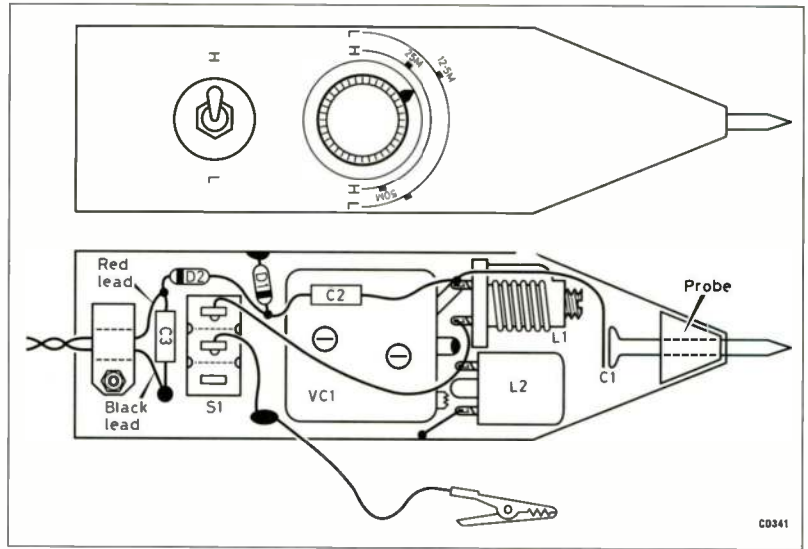

Fig 8.3. Component and wiring layout of the 50MHz wavemeter
3. Solder the centre pin of VC1 to the copper and bend up the right-hand pin (pins at the top of the capacitor) out of the way or cut it off, leaving about 1mm. Check with the layout in Fig 8.3.
5. Glue the probe assembly to the base as shown in Fig 8.3. Either superglue or quick-setting Araldite is satisfactory but in any case give plenty of time for the glue to set before going on to the next stage.
19. Solder a short flying lead about 15mm long to the copper of the board as shown in Fig 8.3 and solder a small crocodile clip to the other end.
21. Paste the paper to the panel so that it is centred on the tuning spindle. Fig 8.3 shows the general idea. The calibration marks will be recorded on this dial later.